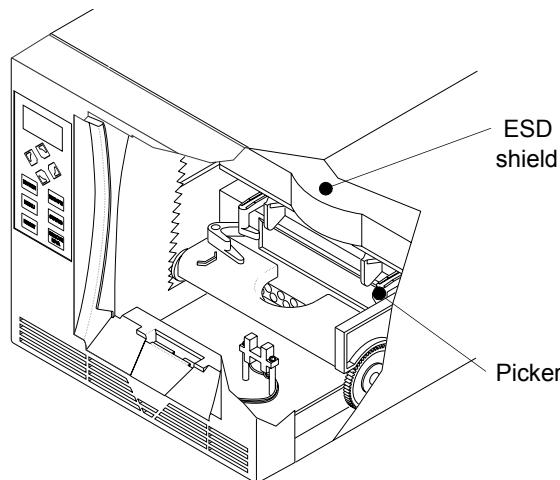

Figure 7-3 Proper position of picker for shipping
b. Make sure the picker cannot be pushed any further and that it is under the robot's ESD shield (see Figure 7-3).